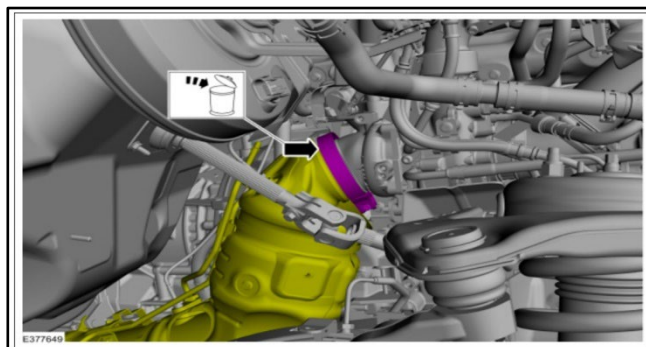

FIGURE 3
3. Remove the DPF V-band clamp. Refer Figure 3